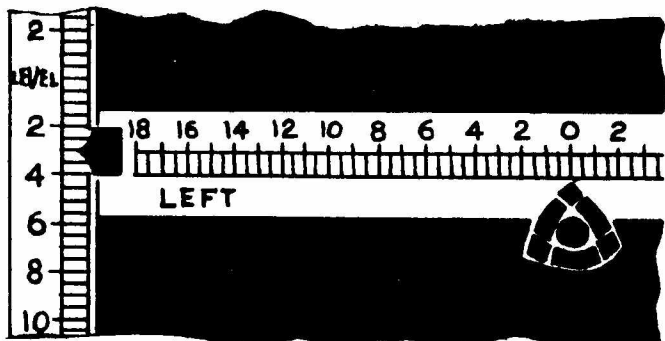
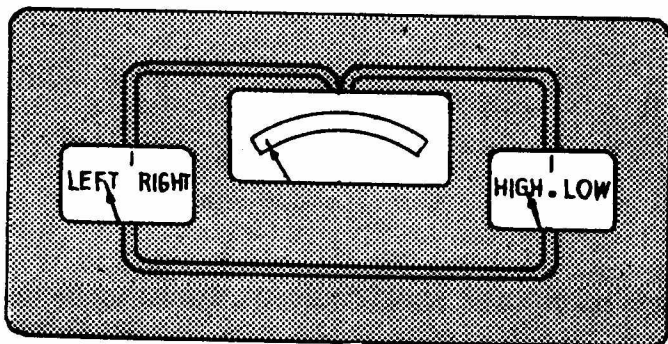
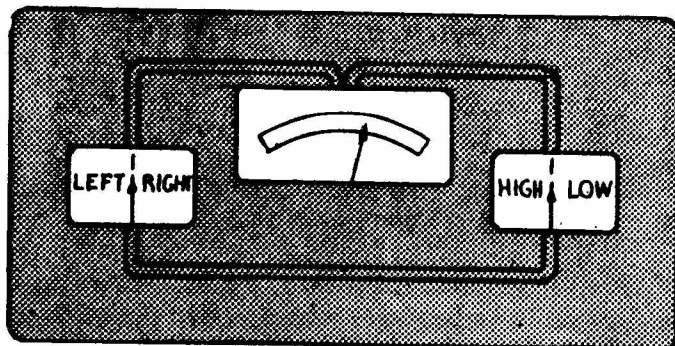

Fig. 5
Fig. 6
Fig. 7
7. Now read the aiming meters. One of the meters will show if the light is high or low and the other meter whether the light is aimed to the right or left. For example, with the aiming scale set to the requirements as shown in Fig. 5, that is, the light to be pointed straight ahead and the light beam dropped 3 inches in 25 feet, if the meters show light to be pointed as in Fig. 6, corrections must be made by moving the headlights to the right and lowering them until the meter hands indicate as in Fig. 7.